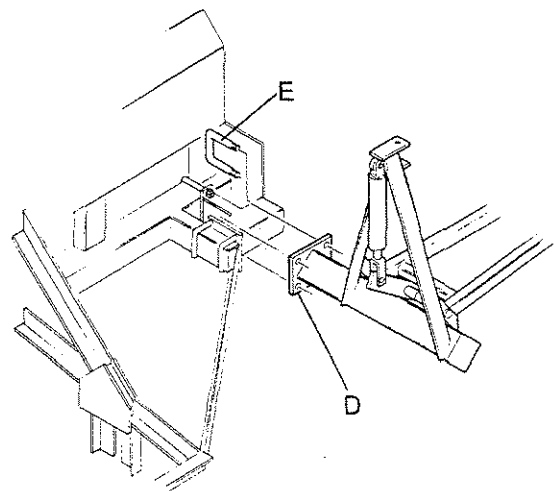

Figure 2
2. Attach Marker Mount (D) to Marker Mount Adapter using $\frac{5}{8}$ " x $3\frac{1}{2}$ " x 5" long U-bolts (E) as shown in figure 2.